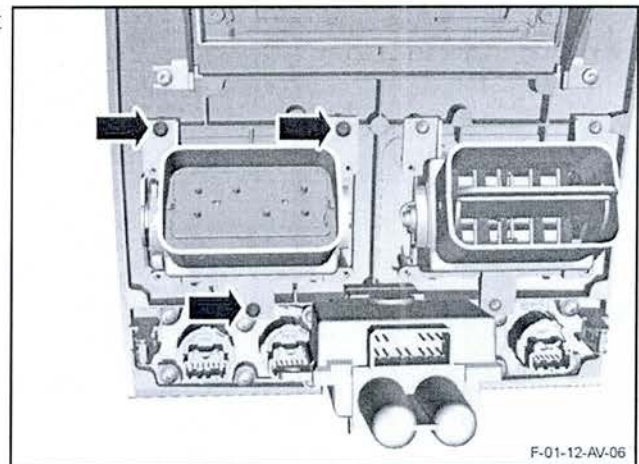

Figure 6
8. Remove the three Torx screws that attach the right side heater vent to the veneer bezel for the IP (refer to Figure 6).